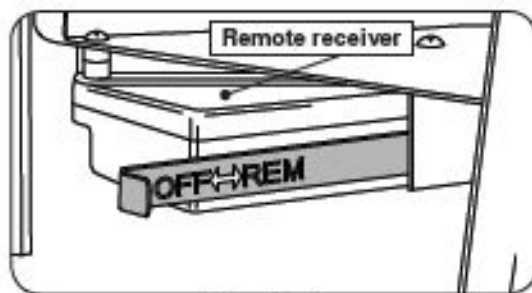

Fig. 19-1
1. Locate the OFF/REMOTE slide actuator on the left rear of the burner. Slide the actuator to the left / OFF position. See Fig. 19-1.